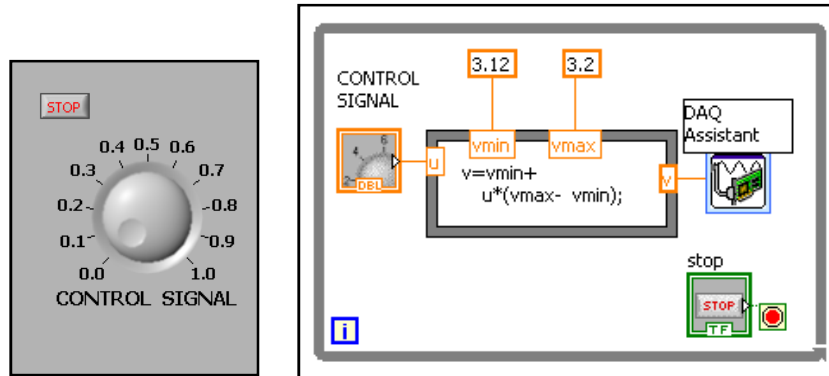

Figure B1.
1. Create a new VI as shown in Figure B1.